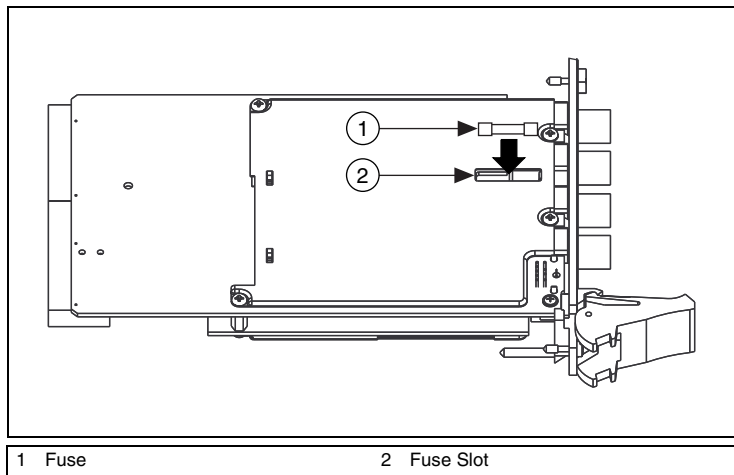

Figure 20. Replacing the Blown Fuse in the NI PXI-4070
9. Insert a new fuse into the fuse slot, as shown in Figure 20.